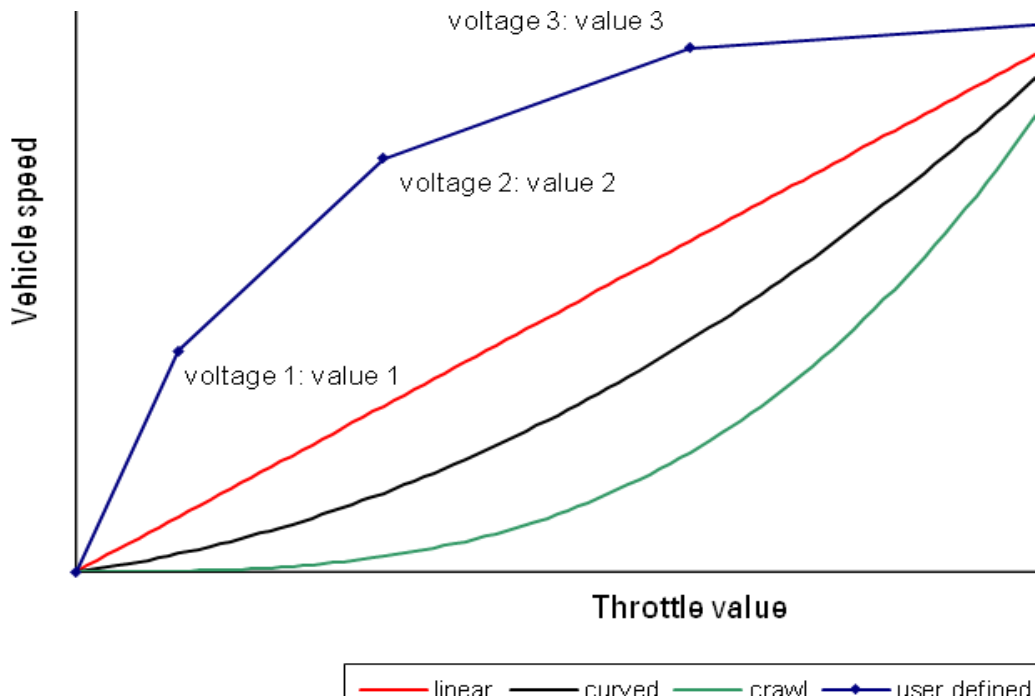

Figure 22 Input characteristics
- Define the input characteristic: this is a profile to the throttle value and can be linear, curved, crawl or user-defined as shown in Figure 22. The curved and crawl characteristics give greater throttle control at low speeds.